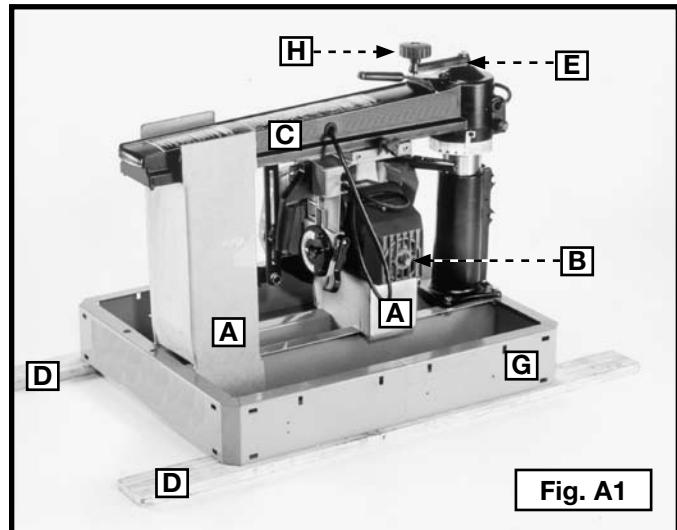
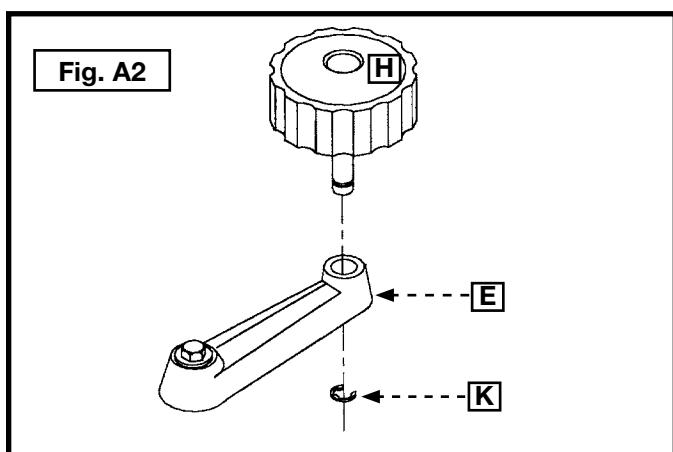

Fig. A1
Fig. A2
1. The saw was packed at the factory with support blocks (A) Fig. A1 under the cutter-head (B) and the track arm (C). Shipping boards (D) Fig. A1 were fastened to saw base (G). To prevent damage during shipment, the track arm elevating knob (H) was removed from the lever (E). Insert the post of the knob (H) Fig. A2 through the hole in the lever (E). Attach the E-ring (K) to the slot in the post.
2. You can remove the support blocks (A) Fig. A1 by rotating the track arm elevating knob (H) clockwise. Remove the shipping boards (D) by taking out the hold-down screws (not shown), located inside the saw base. Discard the support blocks (A) and the shipping boards (D).